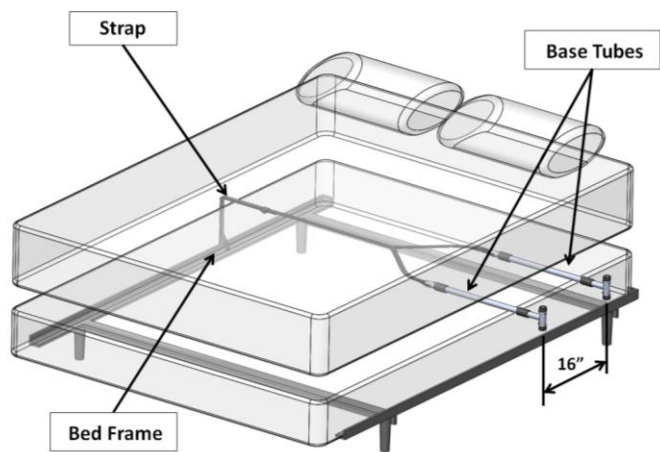

FIGURE 2
2. Place Base Tubes between mattress and box spring of bed and secure the Strap around the bed frame on the opposite side of the bed as shown in Figure 2.